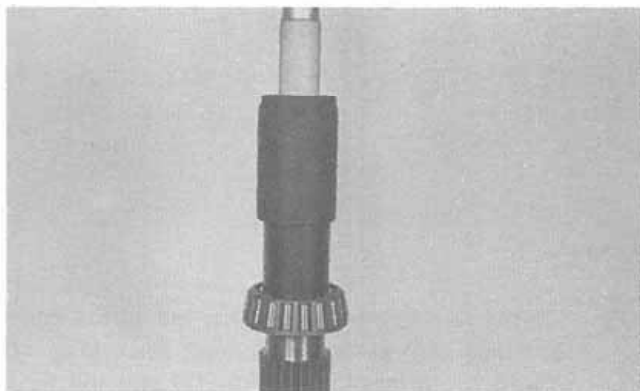

Figure 2:
3. Install the bearing cone located near the center of the center shaft (Fig. 2).